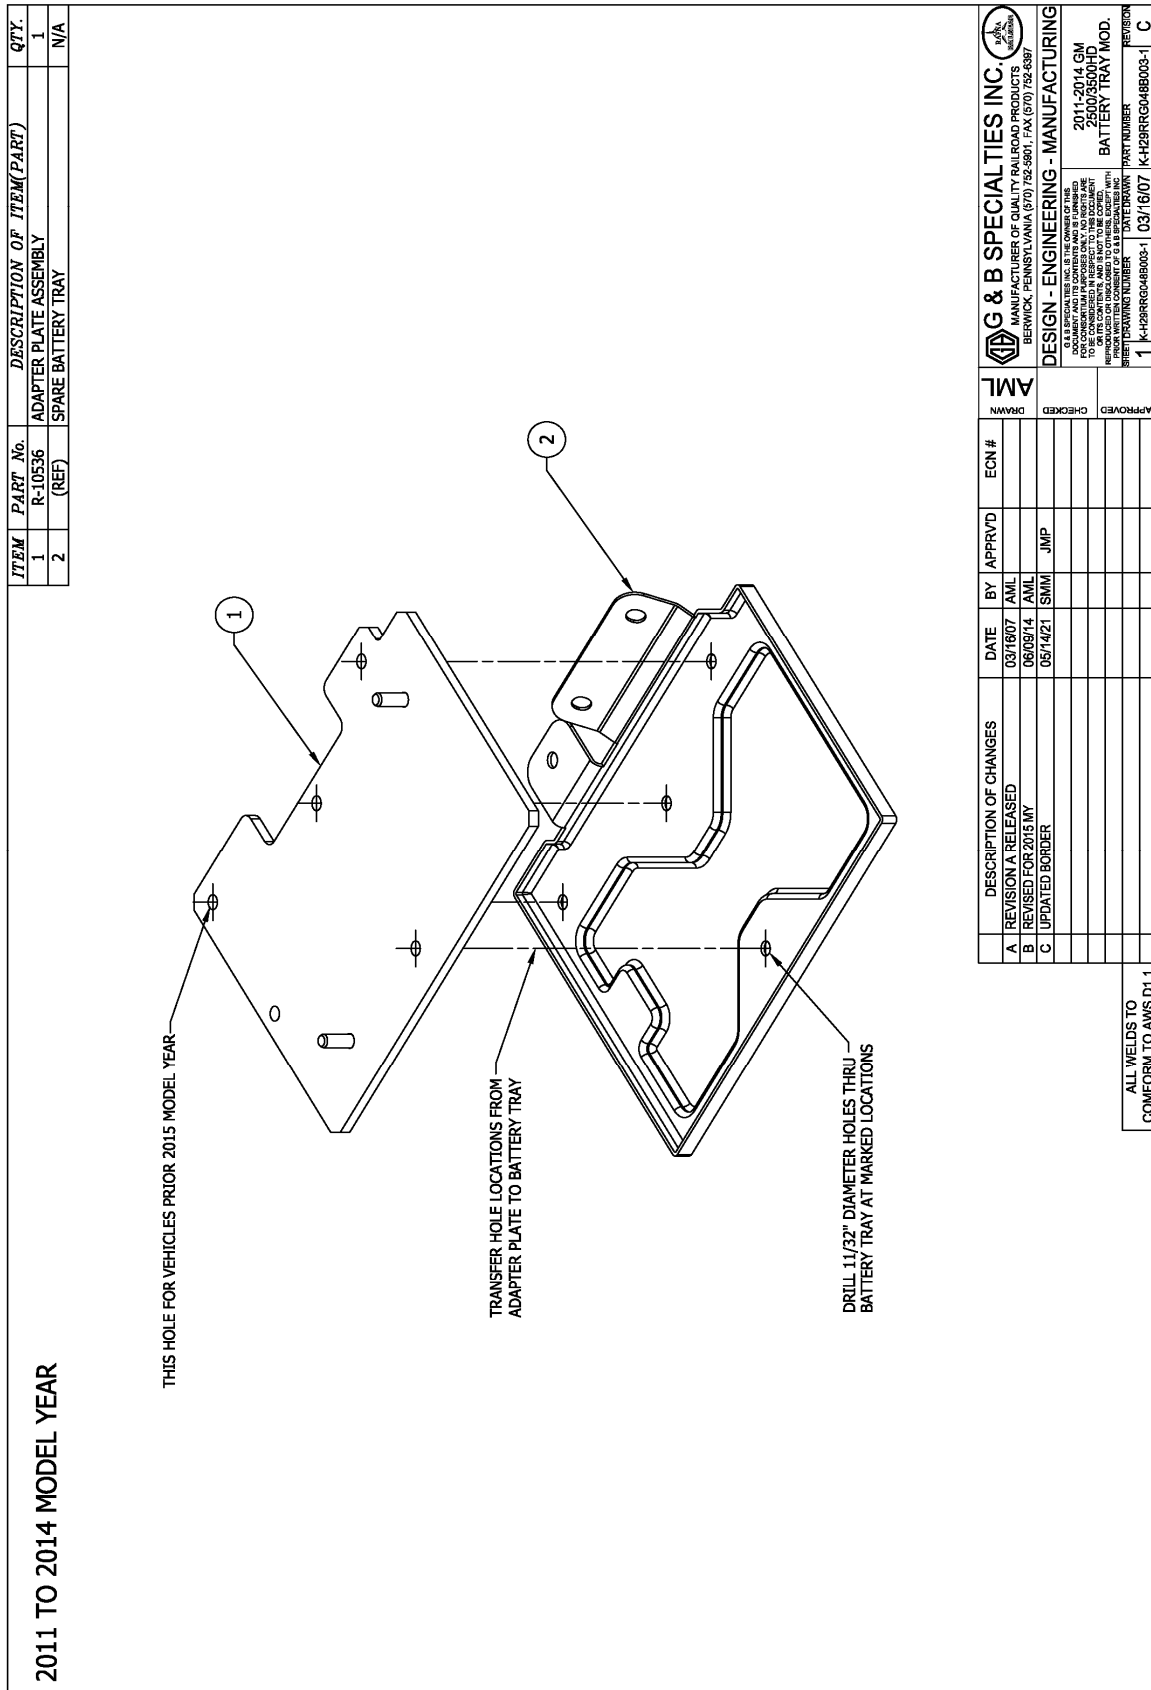

Figure 2 (2011 TO 2014 MODEL YEAR)
2. Place the battery tray adapter plate into spare battery tray and mark hole locations from the adapter plate onto the battery tray. Figure 2 (figure 2a for 2015-2019)
3. Drill (4) 11/32" diameter holes, thru the spare battery tray, that were marked in the previous step. Figure 2 (figure 2a for 2015-2019)